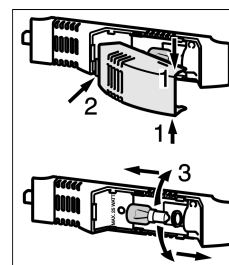

Fig. 8
- ▶ Take hold of the light cover at the top and bottom Fig. 8 (1).
- ▶ Unclip light cover Fig. 8 (2) at the back and unhook.
- ▶ Replace the light bulb Fig. 8 (3).